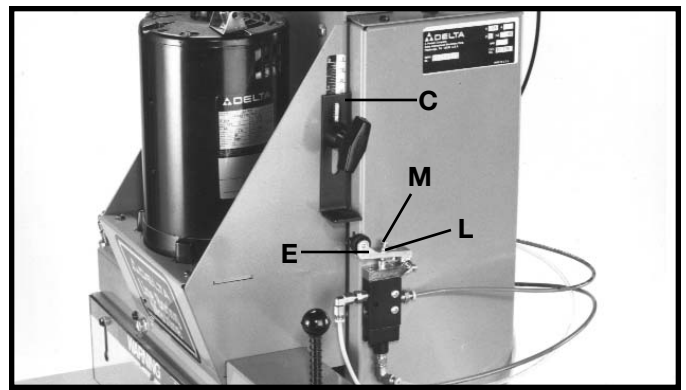
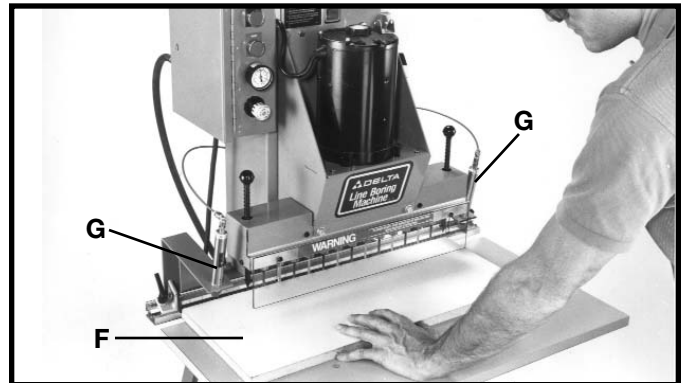

Fig. 53
Fig. 54
3. Place a test board (F) Fig. 54, long enough to reach both clamp cylinders (G), against the fence and under the boring bits as shown. Adjust stop bracket (C) Fig. 53, so it indicates the exact same thickness as that of the board (F) Fig. 54. (If the board is 3/4" thick, set the stop bracket (C) at 3/4" etc.).
6. To adjust the limit switch (E) Fig. 53, loosen lock nut (L). **NOTE:** If the boring bits drilled into the wood, turn adjustment screw (M) Fig. 53, counterclockwise. If the boring bits did not contact the surface of the wood, turn adjustment screw (M) clockwise. Tighten locknut (L) Fig. 53.